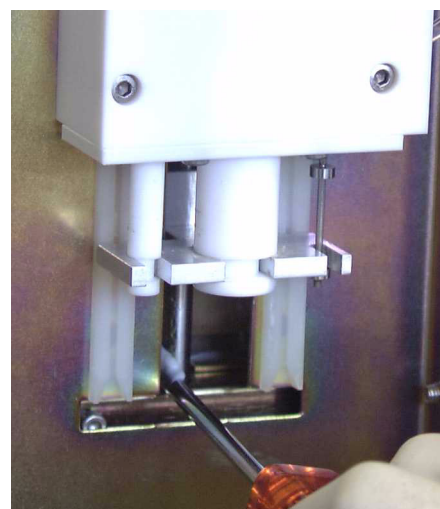

Fig.20: CRP & reagent syringes lubricating
- ◆ Spread a little amount of grease on the cogs of the piston axis of CRP syringe and liquid syringe (See "Fig.20: CRP & reagent syringes lubricating, page 12").